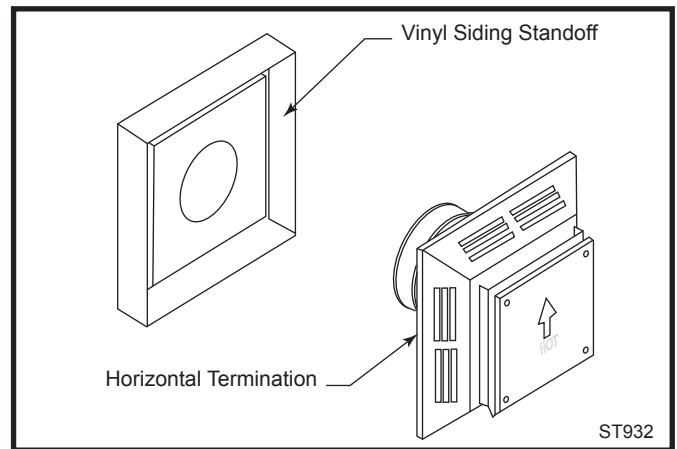

Fig. 45 Vinyl siding standoff and horizontal termination.
a Vinyl Siding Standoff (VS) must be installed prior to installing the horizontal termination. Refer to the appliance manufacturer to determine if one is recommended. Attach the vinyl siding standoff to the exterior side of the wall (making sure it is level and centered with respect to the opening) with screws (provided) at each corner of the standoff. Attach the horizontal termination to the standoff. (Fig. 45)